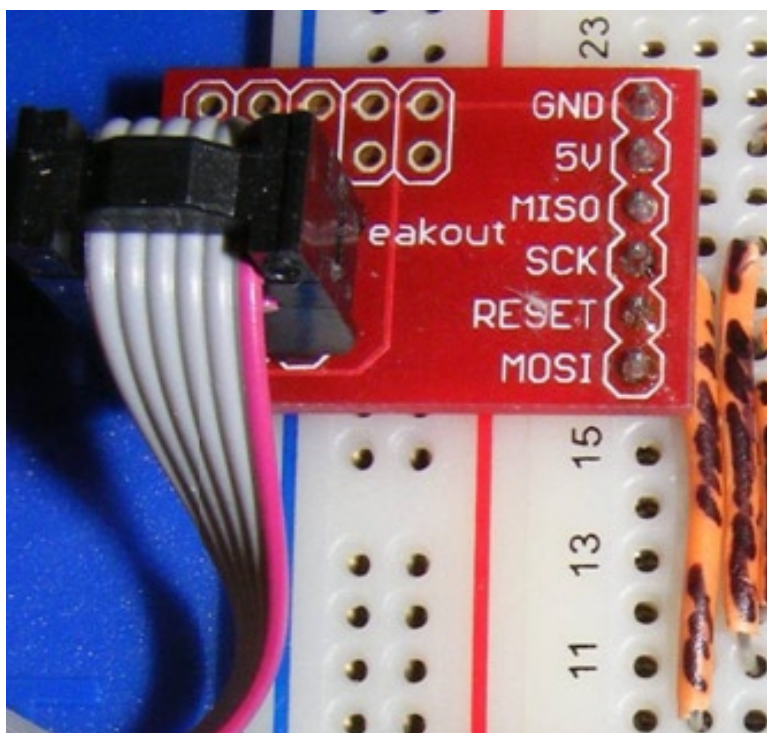

Figure 2-26. The completed breakout board in place on the test bed breadboard
5. Now, plug the completed breakout board assembly into your breadboard at row 16—as shown in Figure 2-26.